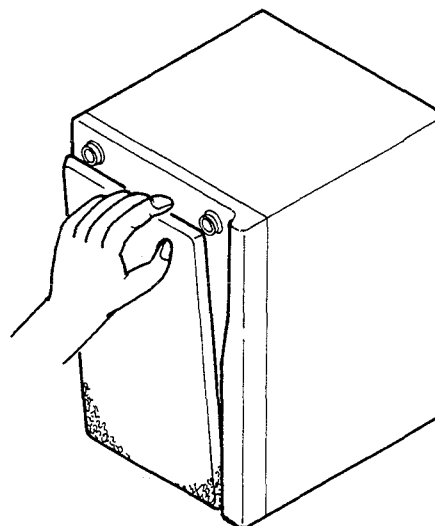

Fig. 7-27
1. Remove the Saran (synthetic resin) net by hand. (Fig. 7-27)